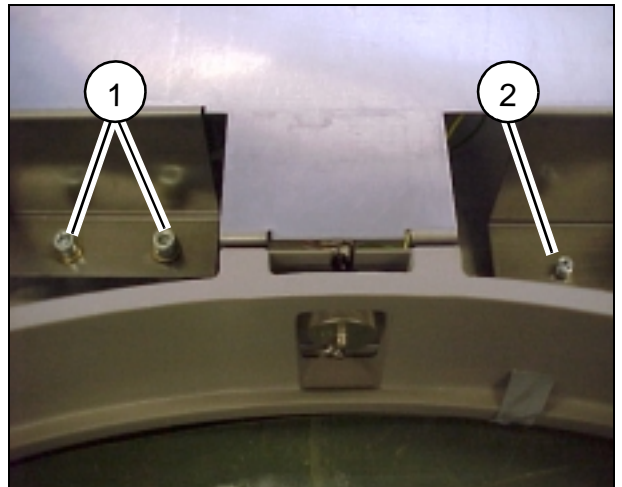

Fig. 6
- Fasten cover with screws M8x12 (1/Fig. 6) and M6x12 (2/Fig. 6).